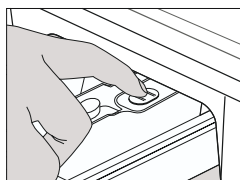

Fig.17
- Press release lever on the inside of the drawer and pull it out. (Fig.17)